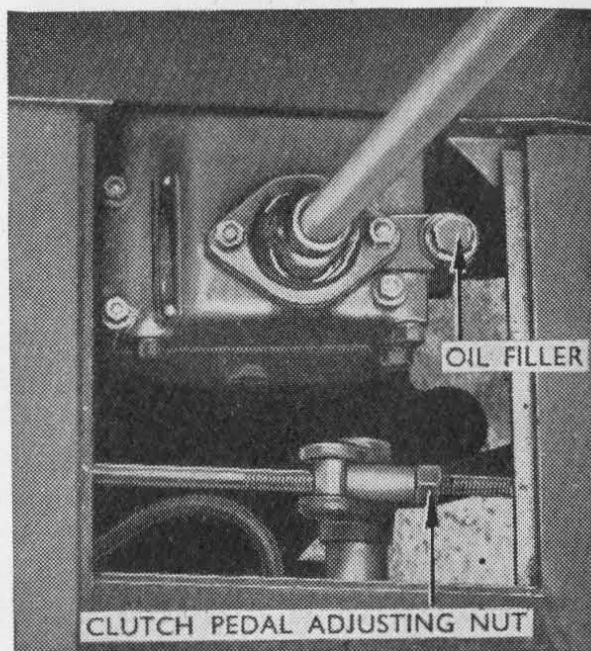

Fig. 26. Access to Change Speed Box and Clutch Pedal Adjuster.
Joint between top and bottom (Fig. 26).
- (c) Change speed box (Fig. 26).
| <ul style="list-style-type: none"> (i) Main gearbox (ii) Auxiliary gearbox (iii) Change speed box (iv) Winch worm casing (v) Clutch withdrawal race | <p>Up to top mark on dipstick (carried in tool box). One side of dipstick is marked "main gearbox" and the other "auxiliary gearbox." For access to the main gearbox, lift front trap in body floor.</p> <p>Should not be more than half full (see page 5). Access to plug by lifting floor trap in driver's cab. (Fig. 26).</p> <p>Remove filler plug from top of casing, also level plug from nearside of casing, then fill to level of level plug hole.</p> <p>This is a periodical attention (see page 24). Use oil can with 30 H.D. on all gearbox control fork ends.</p> |